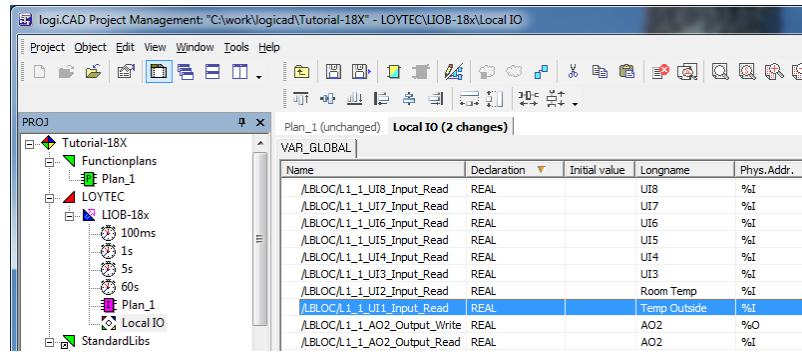

Figure 35: Exposed PLC data points appear in LogiCAD
10. The data points now appear as variables in LogiCAD in a folder under the device folder. The folder is named specific to the technology of the data points, e.g. 'Local IO' for all local I/Os that are exposed as a PLC variable. An example is shown in Figure 35.